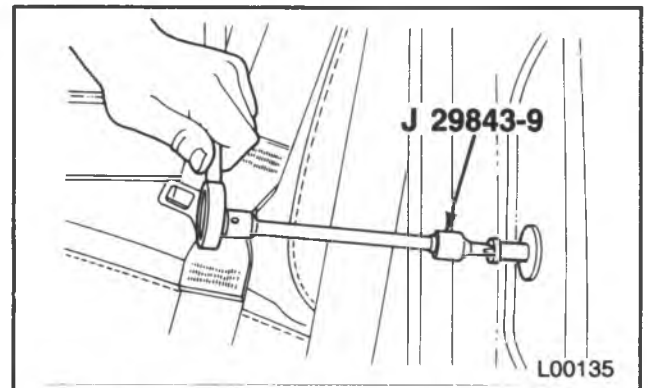

Figure 4 — Striker Bolt Removal and Installation
- Door striker bolt using J 29843-9 (figure 4).